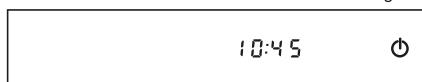

Fig. 6-2
- 1) Press the lamp button [*] for more than 2 seconds to enter set mode. (Fig. 6-2)